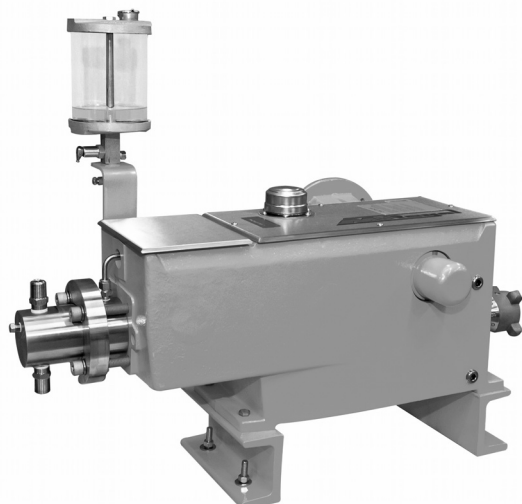

Figure 3. Packed Plunger Liquid End (Shown with optional oiler)(See manual 339-0065-000)
The pump consists of three major components: (1) a drive unit, (2) a reciprocating plunger, and (3) a liquid end. Pump delivery is a function of drive speed, plunger stroke length, and plunger diameter. In addition, delivered volume for a given pump can be varied by mechanical (micrometer hand knob) or (optional) electrical or pneumatic adjustment of plunger stroke length. Pump drives may be fitted with HPD (High Performance Diaphragm, Manual 339-0014-000), Disc Diaphragm (Manual 339-0011-000), HPD Low Flow (Manual 339-0059-000) as well as several styles of PP (Packed Plunger, Manual 339-0065-000) liquid ends (See Figures 3 and 4). This manual will concentrate on the mechanically adjusted drive unit only.